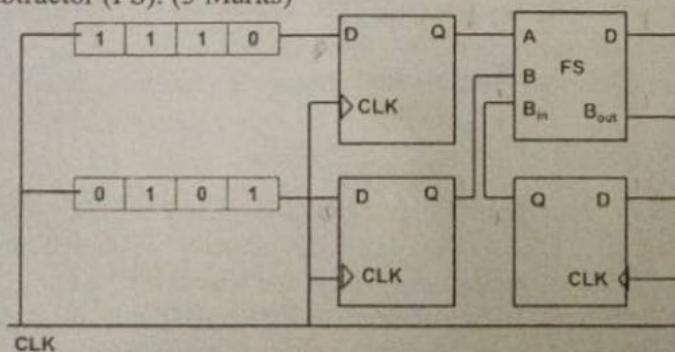

Figure.3
- (b) For the circuit shown in figure 3, two 4-bit parallel-in serial-out shift registers loaded with the data shown are used to feed the data to a Full Subtractor (FS). Initially, all the flip-flops are in clear state. After applying two clock pulses, identify the outputs of the Full Subtractor (FS). (5 Marks)